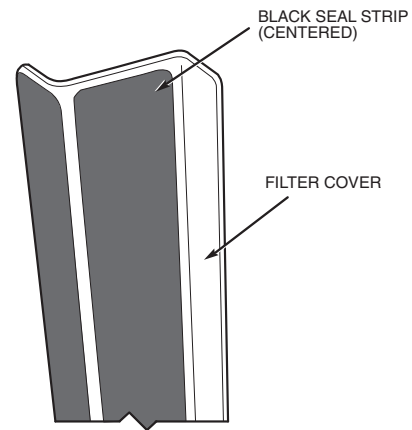

Fig. 39 — Attaching Seal Strip to Filter Cover
13. Attach black seal strip (provided) to filter cover. Seal strip should be applied centered over the holes of the one flange, making sure to fully cover holes and center over the other large flange. See Fig. 39.